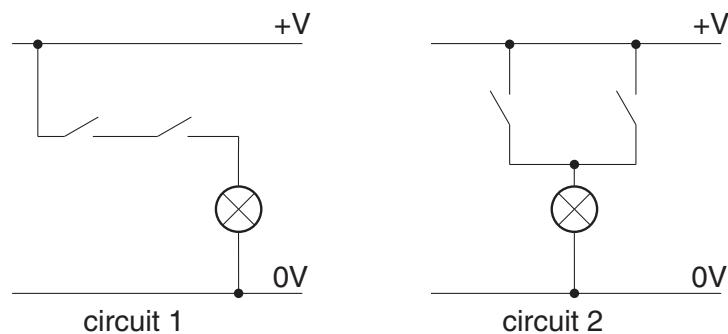

Fig. 8
- 3 (a) Fig. 8 shows two examples of logic systems made from simple switches.